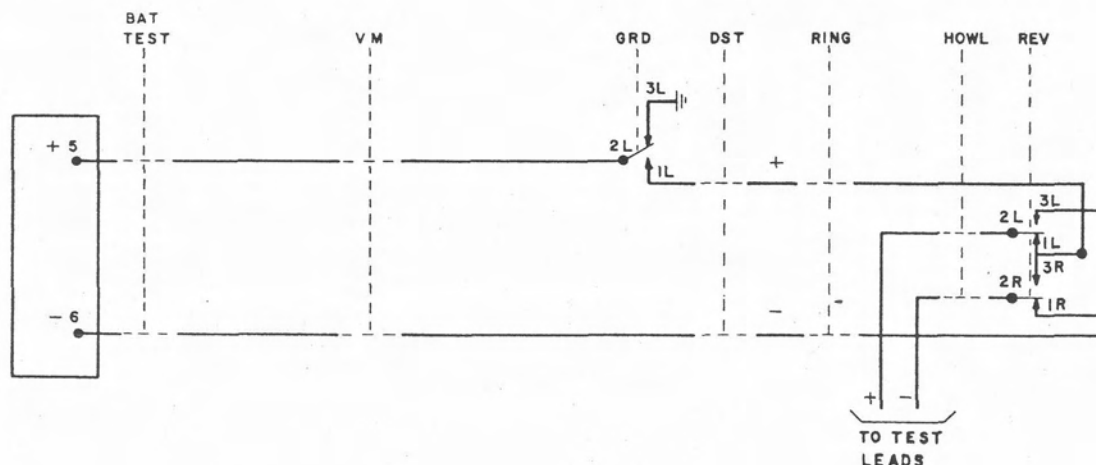

Figure 10. Test for negative foreign potential (negative side of line).
3.4.5 Test for foreign potential. Refer to figure 10. To test on the negative side of the line operate the OUT key and the GRD key and observe the meter deflection. To test on the positive side of the line operate the OUT key, the GRD key, and the REV key. The voltmeter reading shows the presence of a foreign potential.
4.7.6.1 Negative side of the line. Refer to figure 10. The +line will go through the test circuit and end at spring 1L of the GRD key,